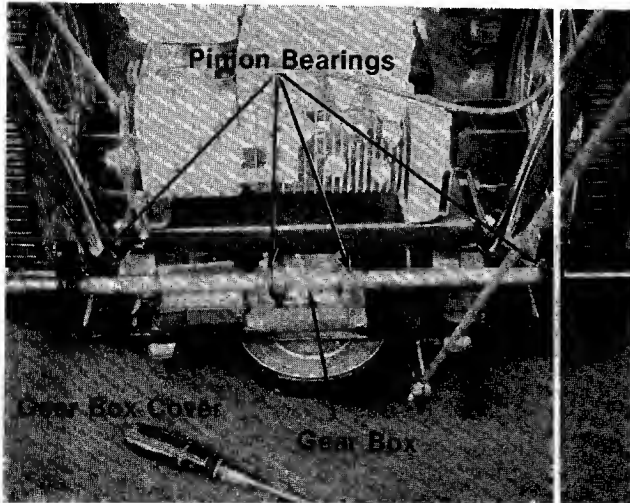

FIGURE 16.
7. **Pinion Bearings**—Lubricate with a few drops of engine oil once a season. See figure 16.